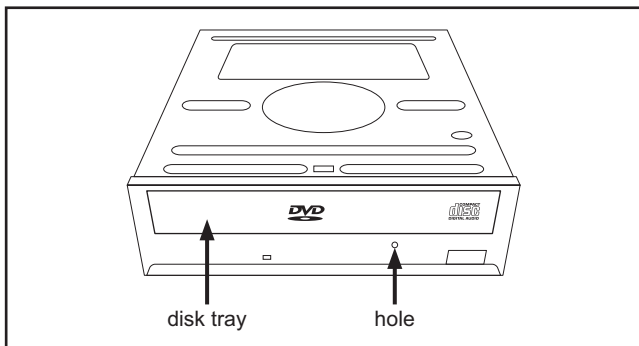

Fig.5-2a
- (1) Unplug the AC power cord from the AC outlet.
- (2) Remove the top cover and front panel assembly. (Refer to the disassembly procedure and perform the disassembly of the major parts before removing)
- (3) Pass a thin wire through a hole in the DVD unit.
- (4) The disc tray comes out slightly. Take out the disc tray manually. (See Fig. 5-2a)